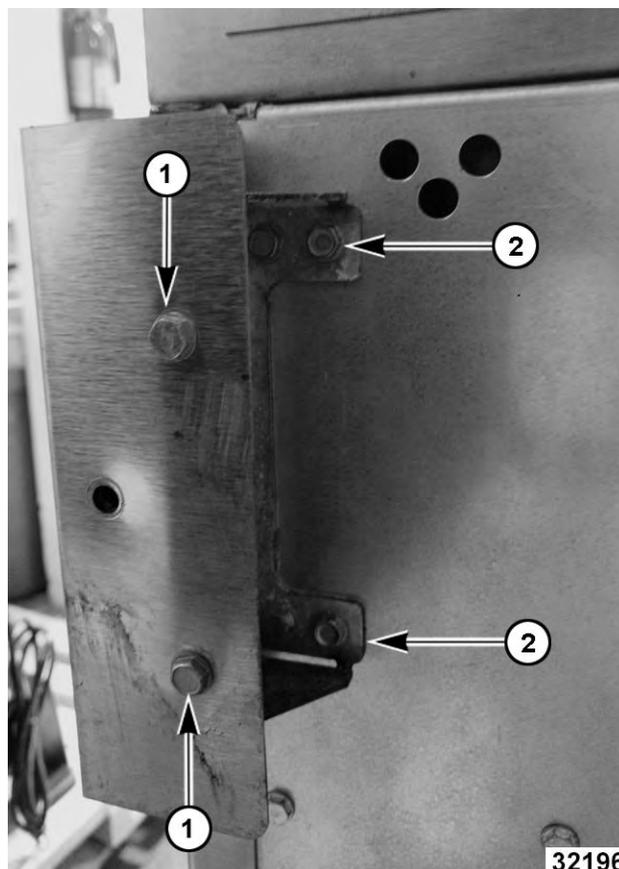

Fig. 8
1. Remove right and left side trim covers (1, Fig. 8).
2. Remove right and left side riser brackets (2, Fig. 8).